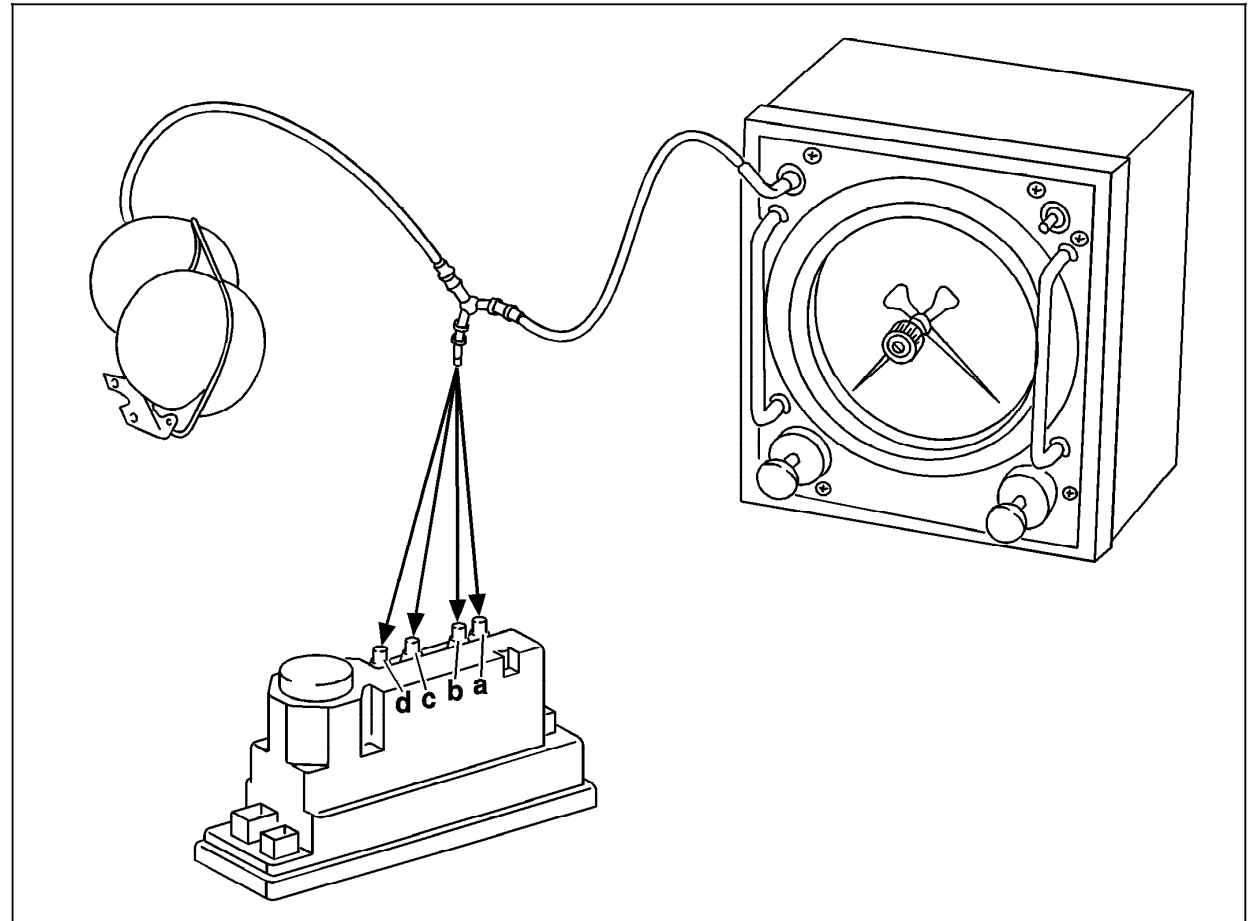

Figure 1
7. Connect vacuum/pressure tester with reservoir to PSE control module (see 32, Figure 1).